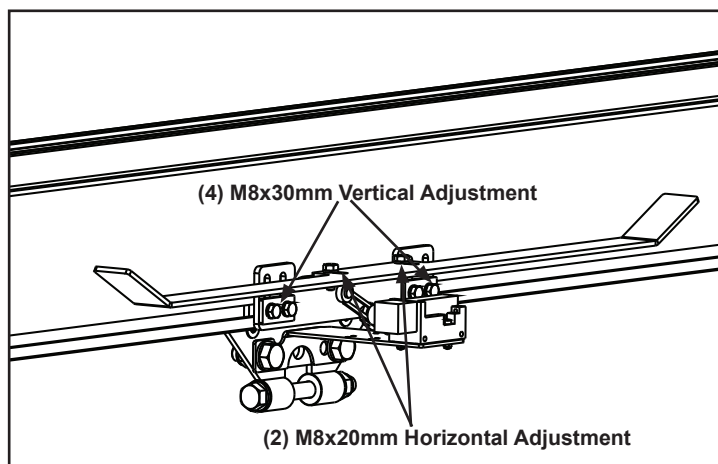

Figure 3-133
- Step 3. Align roller lever and ramp to ensure lever is activated when making contact with ramp. If necessary, adjust ramp vertically by loosening the four (4) M8x30mm HHCS bolts and move the adjustment plate either up or down. Adjust the ramp horizontally by loosening the two (2) M8x20mm HHCS bolts and move the ramp inwards or outwards until limit roller is making contact. See Figures 3-133.
- Step 5. Tighten the four (4) M8x30mm HHCS bolts and (2) M8x20mm HHCS bolts loosened in Step 3. **Tighten until bolts are snug + ¼ turn.** Do not over tighten.